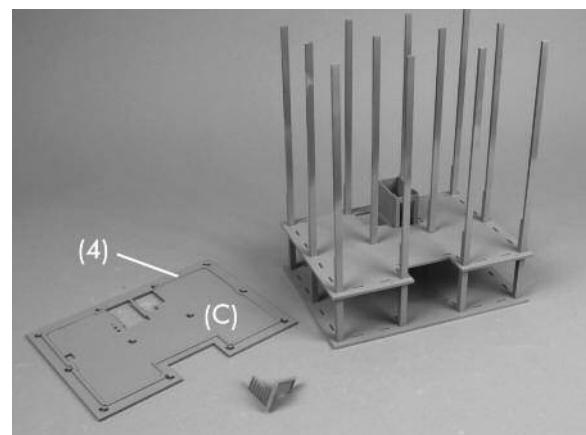

Figure 11
Prime and paint the new part of the assembly as well as both sides of part (C) and the stairs. See Figure 11.